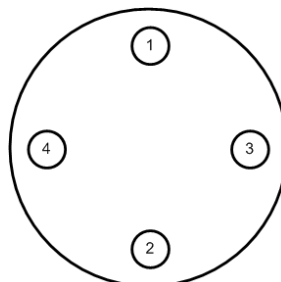

Figure 46 *Screw Tightening Order*
- Tighten the camera assembly screws in a star pattern (see Figure 46, Screw Tightening Order).